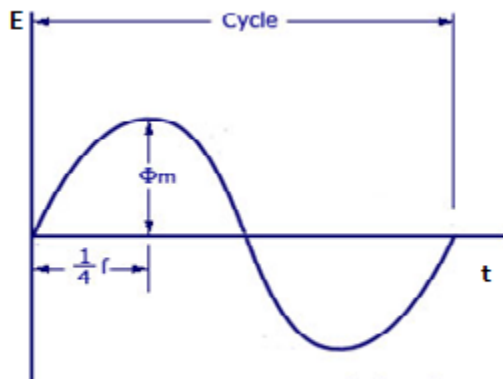

Fig.2.12.A.C. Wave form
- The primary winding is excited by purely sinusoidal alternating voltage. Hence the flux produced is also sinusoidal in nature having maximum value of  $\phi_m$  as shown in the figure.2.12.